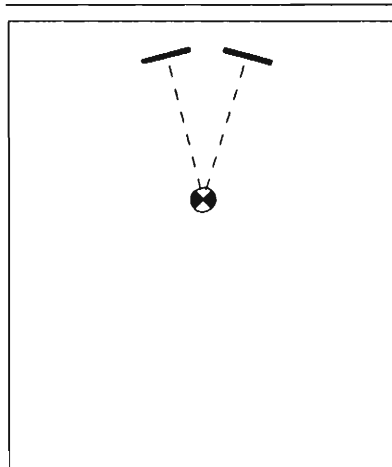

FIGURE 14-9: Musicians appear at far end of concert hall.
- A narrow listening angle and close focus produce an image as though you are seated well back in a concert hall (Fig. 14-9).